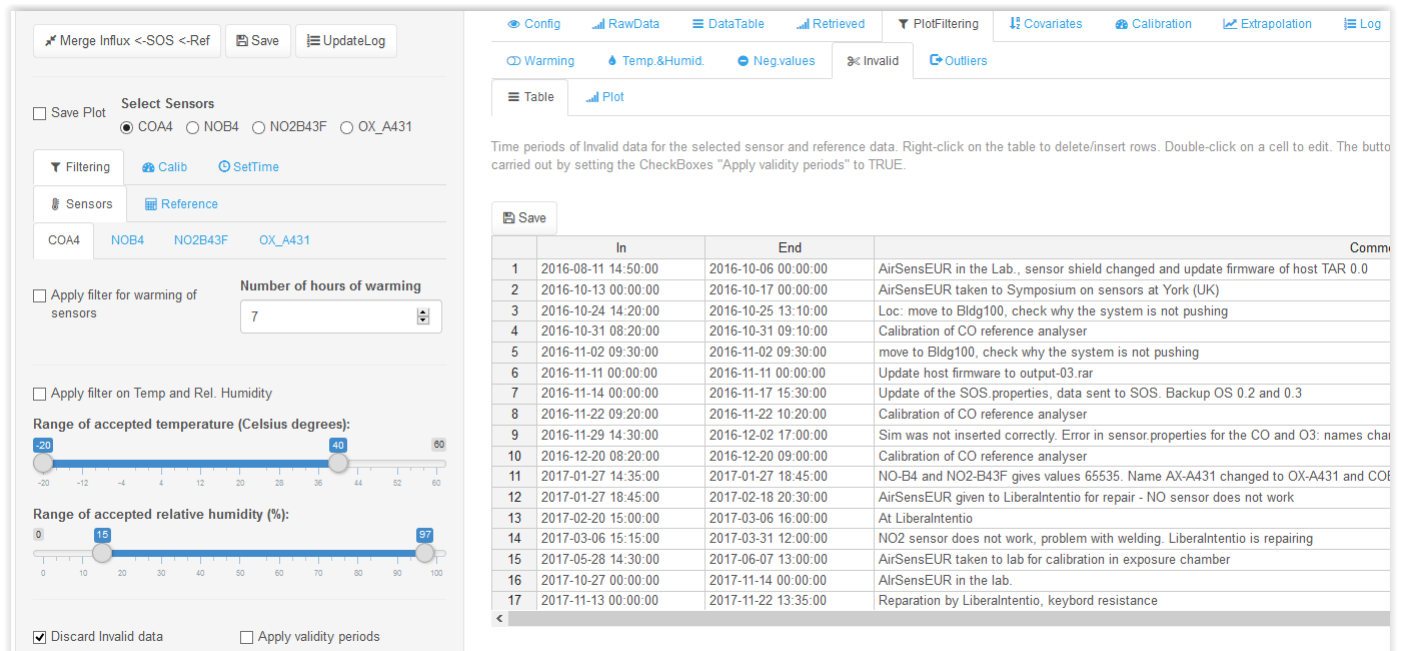

Figure 17: AirSenseEUR R/Shiny web interface for AirSenseEUR. Menu "Data Treatment", filtering invalid sensor data
- A worksheet will appear as in Figure 17 which shows time periods of Invalid data for the selected sensor